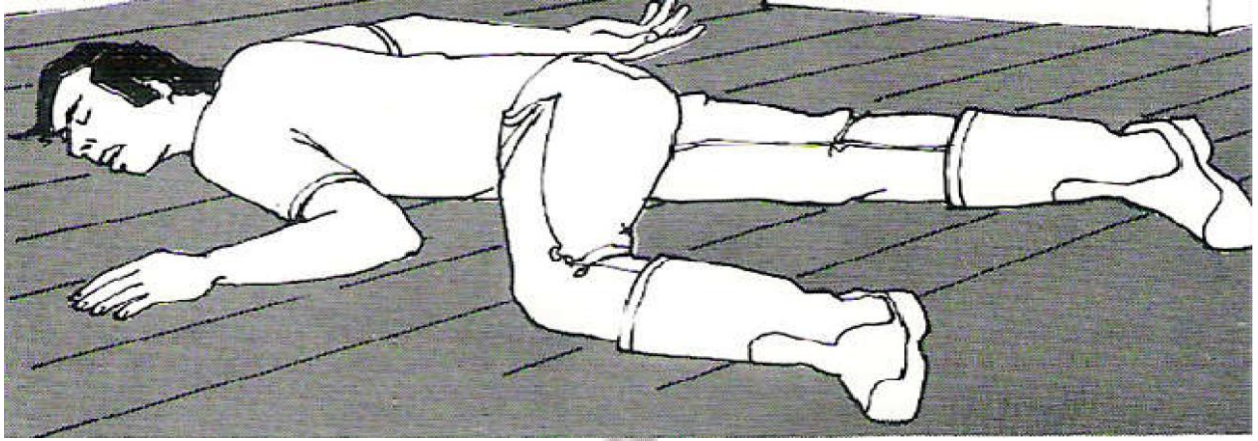

Fig 11 - Unconscious Position
- (o) Turn casualty face down with head to one side. No pillow should be placed under the head. See figure 11.